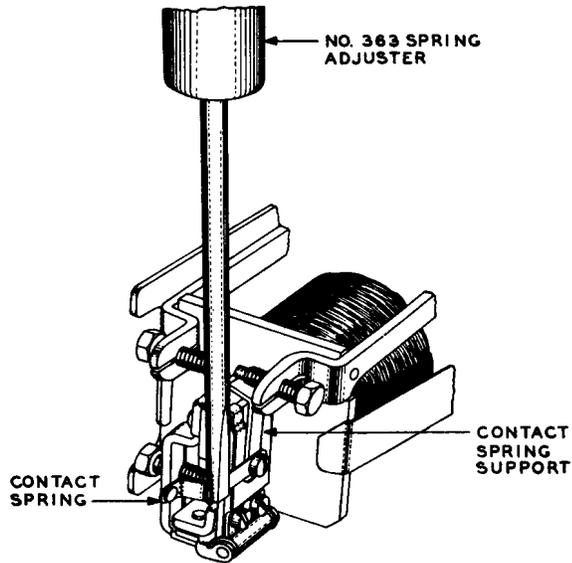
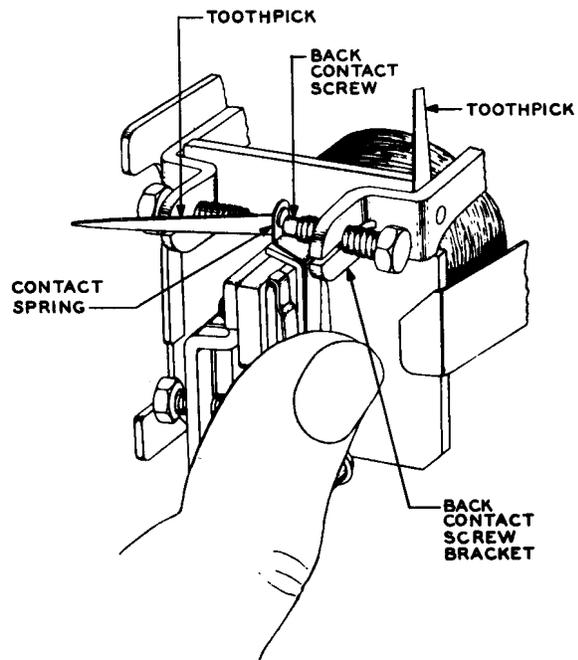

Fig. 13 - Method of Adjusting Flexible Contact Spring
Fig. 14 - Method of Reducing Contact Spring Tension
(1) Flexible Contact Springs: To adjust the flexible contact spring slightly loosen the contact spring retaining screw with the R-2739 screwdriver. Swing the contact spring out toward the front until it is in a horizontal position. Adjust it with the No. 363 spring adjuster applied as shown in Fig. 13. Reposition the contact spring and tighten the retaining screw securely. Check the pressure of the spring against its support. If the pressure is found to be excessive, force the back contact screw brackets slightly away from the contact spring by inserting a toothpick between the back contact screw bracket and the front spoolhead. Then hold the armature manually operated as shown in Fig. 14 and force the contact spring back toward the back contact screw with the flat end of another toothpick. Repeat this operation until the required tension is obtained. Remove the toothpick from the contact screw bracket. After making this adjustment, adjust for contact separation and check that the contact alignment is satisfactory.
(2) Solid Contact Springs: To adjust the solid contact spring, insert a toothpick between the back contact screw bracket and the spoolhead. Back off the retractile spring screw using the No. 43 wrench until the screw is clear of the armature. Slightly loosen the vertical hinge screws with the R-2739 screwdriver. Remove the armature from the relay taking care not to disturb the position of the armature pin and washers. Loosen the contact spring retaining screw with the KS-6854 screwdriver just sufficiently to permit the contact spring to be moved to a position at right angles to its normal position. Then tighten the contact spring retaining screw. Grasp the